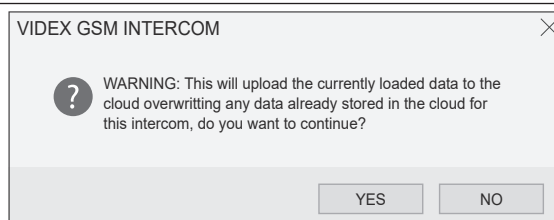

Fig. 111
7. An upload warning prompt window will appear, as shown in **Fig.111**. To confirm the upload of data to the cloud simply click the **'YES'** button. To cancel out of the operation click on the **'NO'** button.